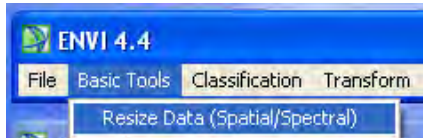

Figure 54. Opening the Resize window
- b. Click Resize Data (Spatial/Spectral) (see Figure 54)